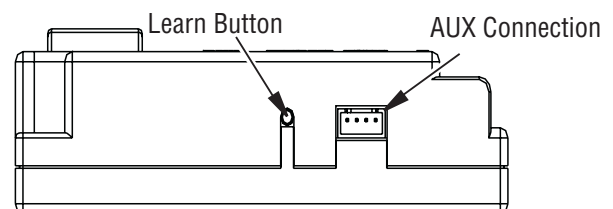

Figure 27 - Gas Module Left Side
1. There is a switch located on the right side of the module that reads REMOTE/OFF (**Figure 27**).
- To program the module (make sure the system has power), locate the learn button on left side as shown in **Figure 27, Page 16**. Press and release the learn button. There will be a beep sound from the module. Then press any button on the remote transmitter. Once the module's internal receiver accepts the transmitter code, there will be a series of confirming beeps.